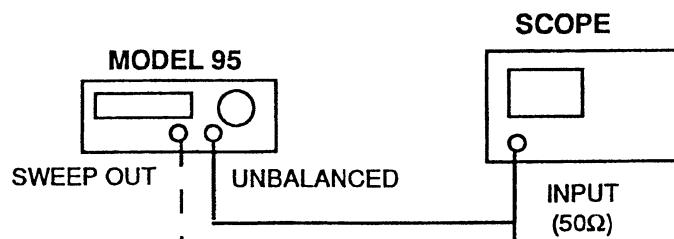

Figure 3-3. Waveforms/Sweep Verification
- Connect the Model 95 and test equipment as shown in figure 3-3. Connect the Model 95's SYNC OUT to the scope's trigger input.
- Connect the Model 95 and test equipment as shown in figure 3-3. Connect the Model 95's SYNC OUT to the scope's trigger input. Connect the Z-AXIS output, located on the rear of the Model 95, to the Z-Axis input on the scope.
2. Connect the Model 95 and test equipment as shown in figure 3-3. Connect the Model 95's SYNC OUT to the scope's trigger input.
2. Connect the Model 95 and test equipment as shown in figure 3-3. The Unbalanced Output must be terminated into a 50Ω feed-thru termination.
2. Connect the Model 95 and test equipment as shown in figure 3-3.